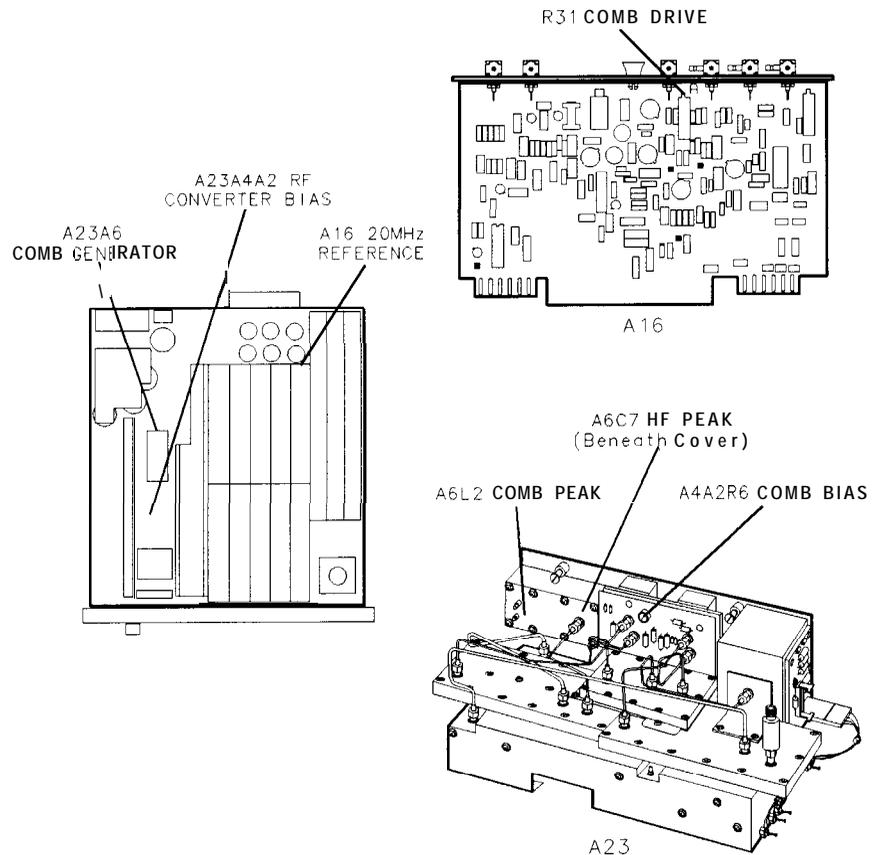
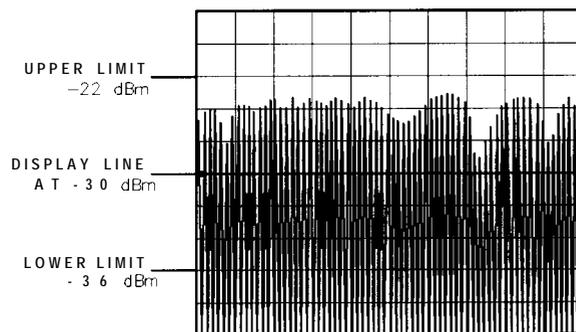

Figure 3-83. Location of Comb Generator Adjustments
Figure 3-84. Comb Teeth Display
12. Adjust A16 COMB DRIVE A16R31 for peak amplitude of CRT trace until comb teeth begin to “wobble.” Then adjust COMB DRIVE A16R31 slightly counterclockwise until the lowest comb tooth (near START frequency) just begins to fall. See Figure 3-84 for a typical comb tooth display. See Figure 3-83 for location of adjustments.
13. Adjust COMB BIAS A23A4A2R6 for peak amplitude of CRT trace until comb teeth begin to “wobble.” Then adjust COMB BIAS A23A4A2R6 slightly counterclockwise until the lowest comb tooth (near START) frequency) just begins to fall. See Figure 3-84 for
a typical comb tooth display. See Figure 3-83 for location of adjustments.
16. Adjust A23A6 COMB PEAK A23A6L2 for maximum amplitude of comb teeth. See Figure 3-83 for location of adjustment.
18. Adjust A23A6 HF PEAK A23A6C7 for maximum amplitude of the highest-frequency comb tooth displayed (comb tooth to far right of CRT). See Figure 3-84 for location of adjustment.